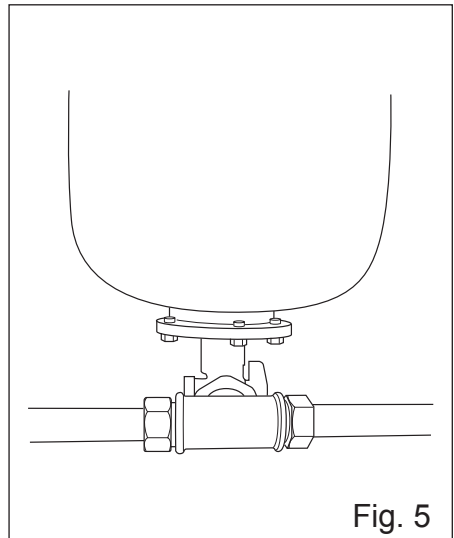

Fig. 5
5. Connect the water supply so that water from the supply enters one end of the tee and the water that feeds the system exits from the other side of the tee (Fig. 5).